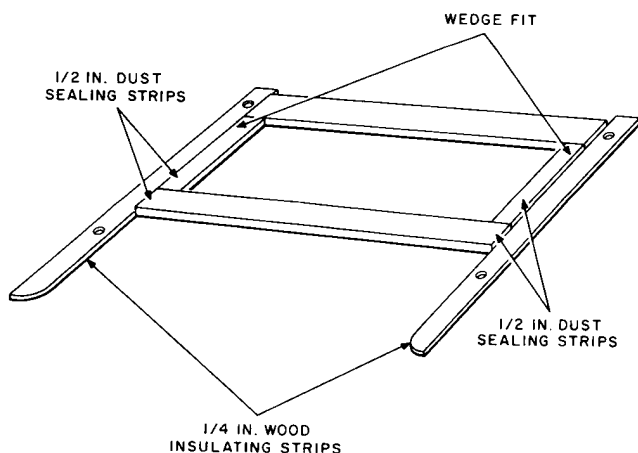

Fig. 2—Placement of Insulating and Dust Sealing Strips
3.04 Dust sealing strips must be provided when insulating strips are installed. Install as shown in Fig. 2.